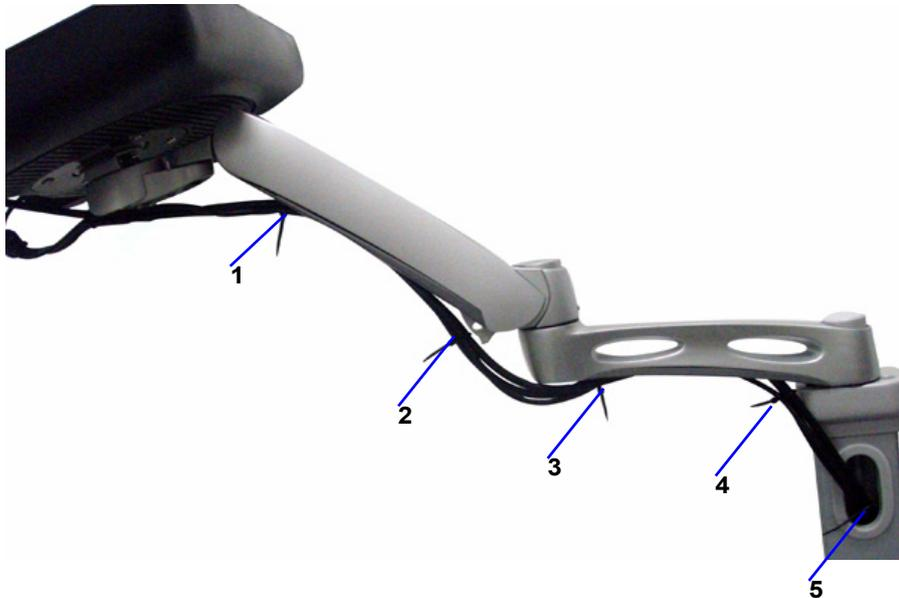

Figure 3-11 Cable Tie
- **Arm and Touch Screen Position:** Place the Touch Screen in the horizontal position and the Arm in extreme higher position, refer to Figure 3-11 on page 21 .
- **Action:** Fix the cable ties as the Figure 3-11 on page 21 shows.
- **Arm in extreme higher position:** refer to Figure 3-11 on page 21 .
- **Action:** Make the cable tie get through the Wire Clamp in the decorative bottom cover and then fix the cable, refer to Figure 3-11 on page 21 .